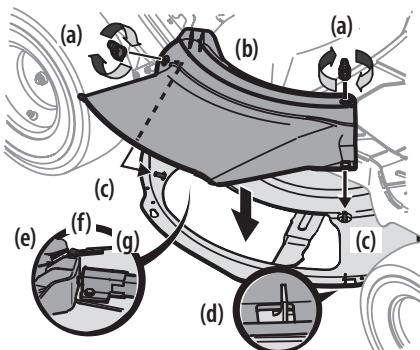

Figure 11
1. Remove the wing knobs (a) installed on the mowing deck and retain for later installation. See Figure 11.
2. Install the deck chute (b) into the deck discharge opening on the deck. The rear of the chute (b) should be under the tab (f) on the rear deck bracket (g). The studs (c) on the deck surface will fit through the holes on the upper portion of the deck chute (b). The small tab (d) on the deck lip area will fit through the square cutout on the lower portion of the deck chute (b). See Figure 11.
3. Secure the deck chute (b) by tightening the wing knobs (a) removed in Step 1. See Figure 11.